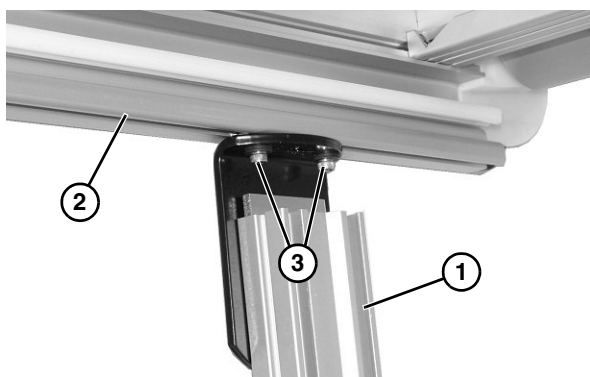

Figure 11
2. Attach stands (**Figure 11, item 1**) to the bottom of the conveyor frame (**Figure 11, item 2**). Tighten socket head screws (**Figure 11, item 3**), on each side, to secure in place.